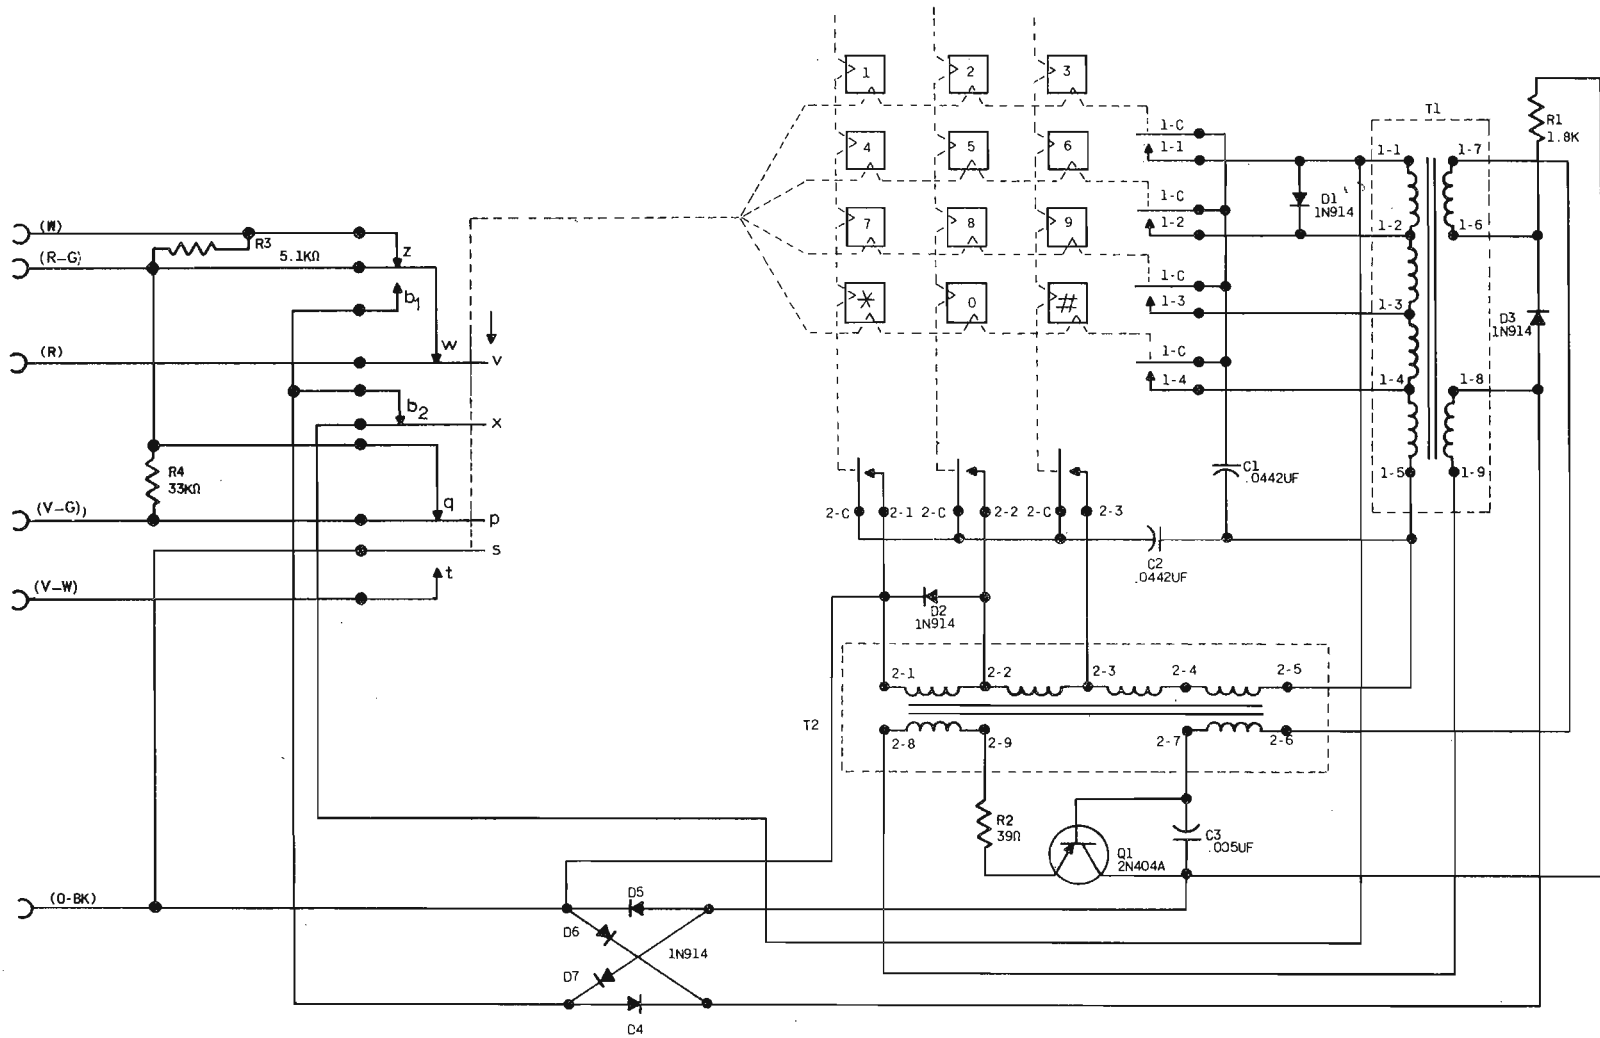

Fig. 13 - NE-35Q3B1 and NE-35Q3L1 Dials Schematic
- Fig. 13 – NE-35Q3B1 and NE-35Q3L1 Dials Schematic